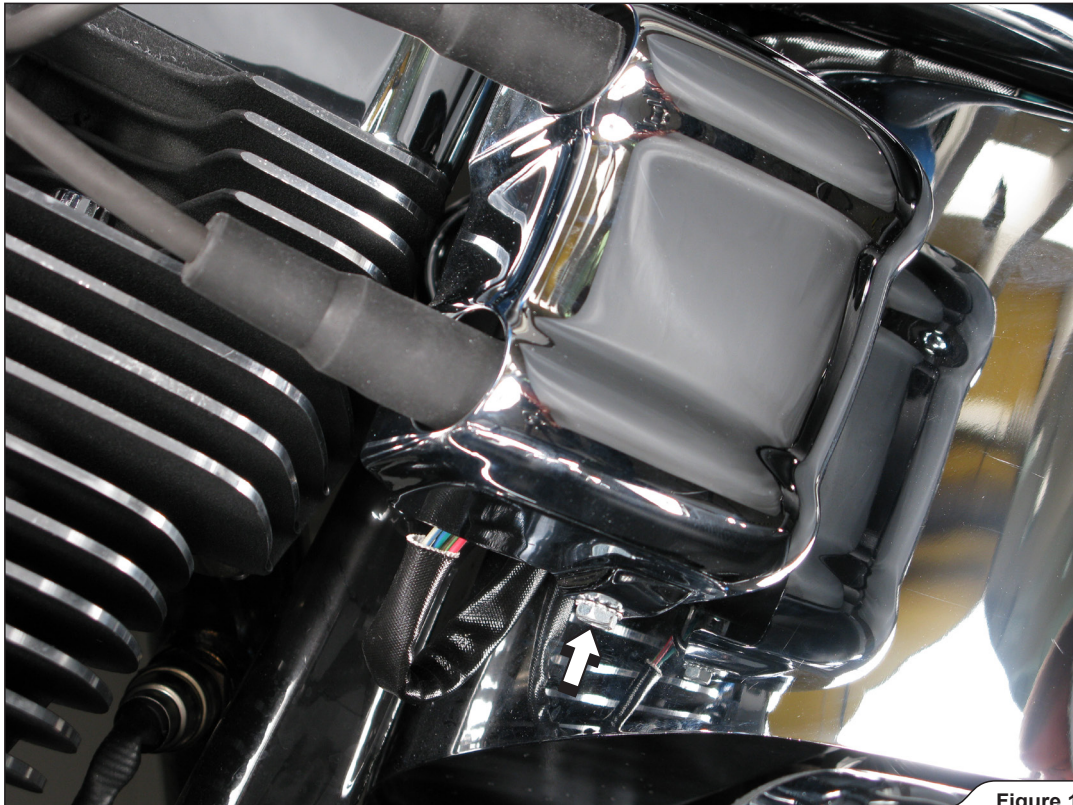

Figure 1
2. Unscrew the marked screw and partially remove the coil cover (**Figure 1**).